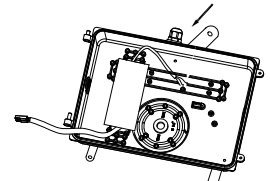

Figure 2
2. Choose an appropriate connocation hole according to your requirements. Loosen the plug, and then fie the waterproof connector from the accessories; rotate the three mounting kits to the proper angle . (Figure2)